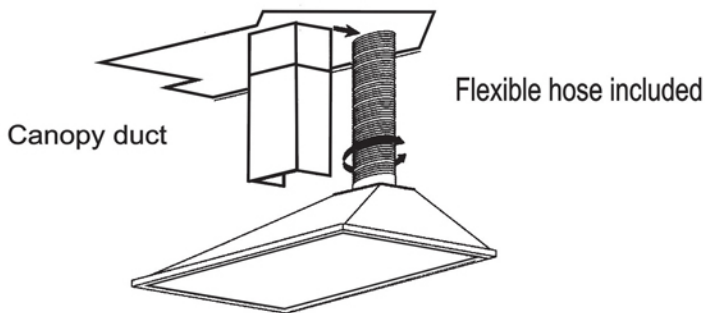

Fig. 5
- C. Ensure the mounted Chimney hood is level when installed for optimum performance. (**Fig. 5**)